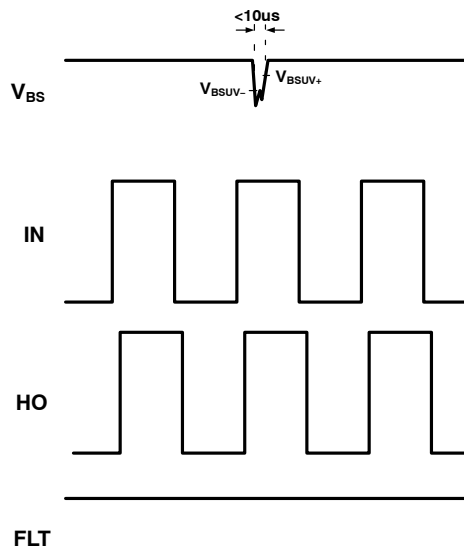

Figure 16. Under-Voltage Condition Shorter than 10 μ s
- Within the first 10 μ s of an under-voltage condition (see Figure 16):